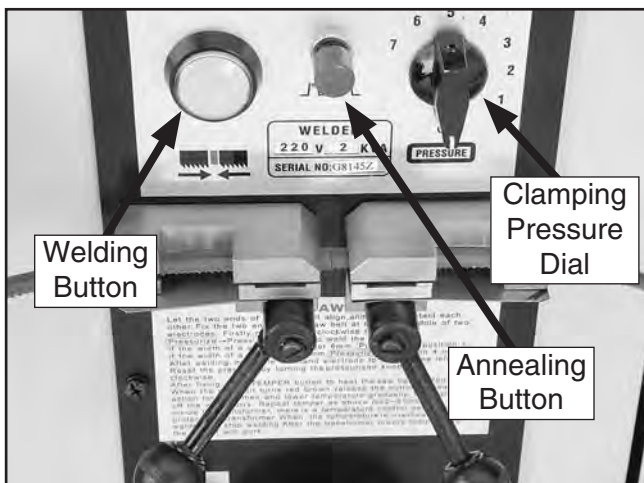

Figure 36. Blade ends in correct position for welding.
- Set the clamping pressure dial (see **Figure 36**) to "0".
- Place the other blade end in the opposite welding clamp and position it so that it evenly butts up against the opposing blade end, then lock it in place by rotating the lock lever all the way up, as shown in **Figure 36**.